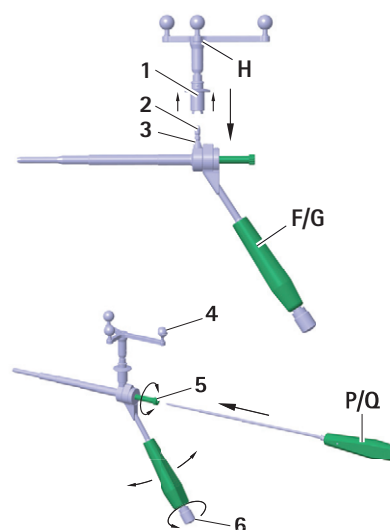

Fig. 2 Mounting the Aesculap star unit on S⁴C drill guide FW664R/FW665R
- To ensure that the camera has an unrestricted view of the reflective marker spheres, loosen knob **6** on the S⁴C handle of the S⁴C drill guide **F/G** and rotate Aesculap star unit **H** to the desired position, see Fig. 2.
- To ensure that the camera has an unrestricted view of the reflective marker spheres, loosen knob 6 on the handle of the S⁴C drill guide F/G and rotate Aesculap star unit H to the desired position, see Fig. 2.